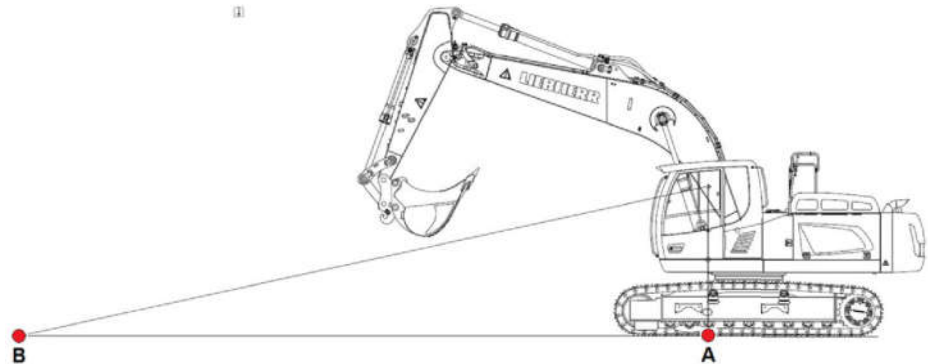

Fig. 339: Travelling position
- Working tool is above operator's field of vision so that operator can see point B, which is 39' 4" ft-in away from point A. (see: fig. 339, page 149)